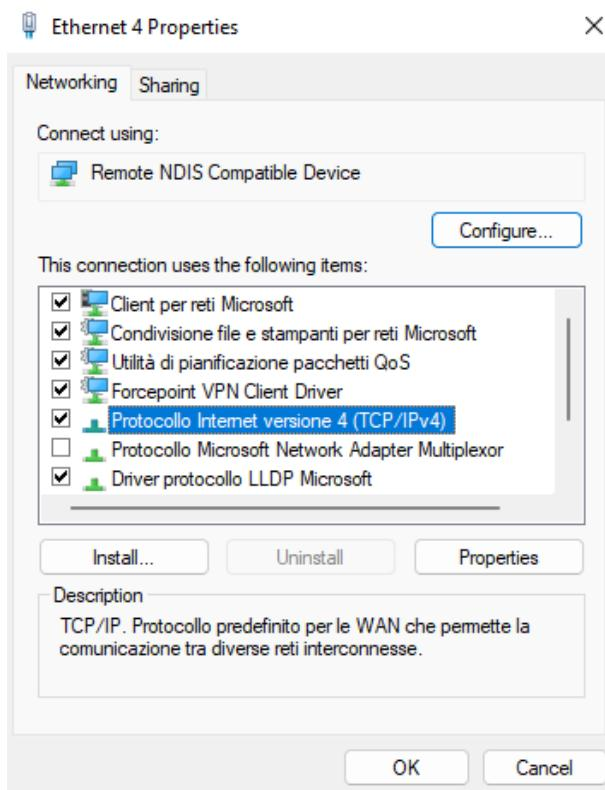

Fig. 8.12: Property window of the "Internet Protocol Version (TCP/IPv4)".
- d. Click on "Internet Protocol Version (TCP/IPv4)" and select "Properties", as in **Fig. 8.12**.